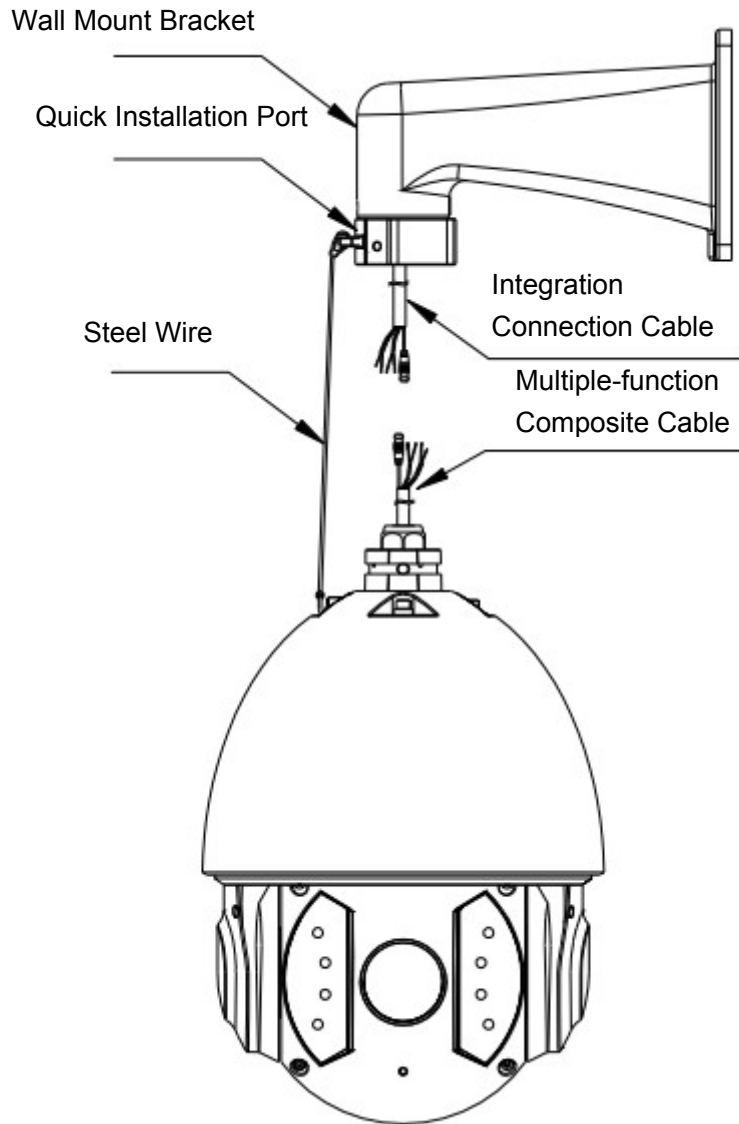

Figure 1-5
- Connect the reserved integration cable of the wall mount bracket to the corresponding power cable, video/audio cable, RS485 control cable, alarm port, high frequency cable, fiber cable (if necessary) of the multiple-function composite cable of the IR speed dome. Paste the insulating tape in the connection position to do the proper waterproof work. See Figure 1-5.